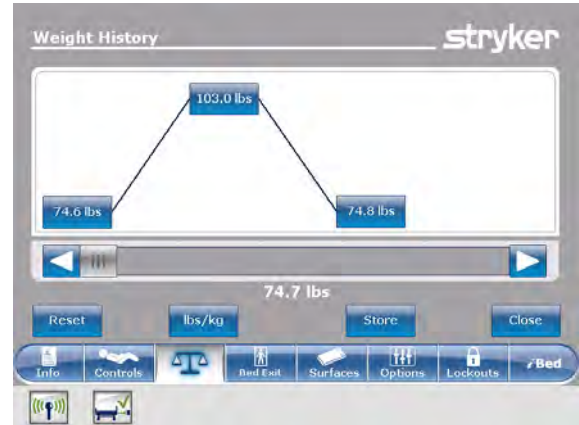
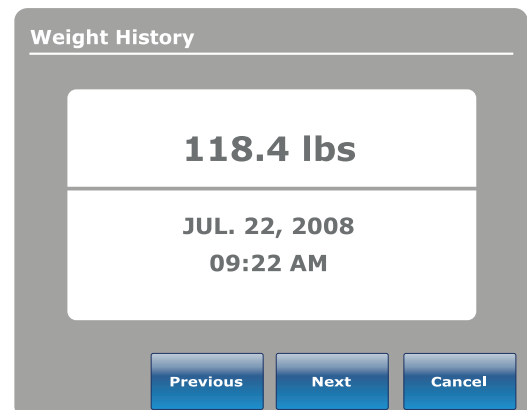

Figure 1-27: Weight history
Figure 1-28: Weight history information
To reset the stored weight histories, tap **Reset** (Figure 1-27 on page 1-47).
To change the displayed measuring unit, tap **lbs/kg** (Figure 1-27 on page 1-47).
To store the current weight reading, tap **Store** (Figure 1-27 on page 1-47).
To return to the **Scale** screen, tap **Close** (Figure 1-27 on page 1-47).
1. Tap a weight value in the weight history screen (Figure 1-27 on page 1-47). Each value displays the time and date of the measurement (Figure 1-28 on page 1-47).
2. Tap **Previous** to see the previous weight measured (Figure 1-28 on page 1-47).
3. Tap **Next** to see the next weight measured (Figure 1-28 on page 1-47).
4. To return to the **Weight History** screen, tap **Cancel** (Figure 1-28 on page 1-47).